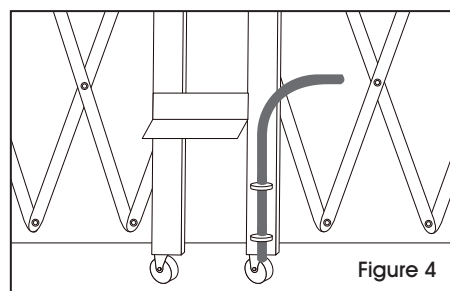

Figure 4
4. Raise center drop pin and use attached notch to keep in place; this prevents damage to floor surface. (See Figure 4) Extend and retract gate to its stops to work out stiffness. Repeat steps 2-3 for other half of gate.